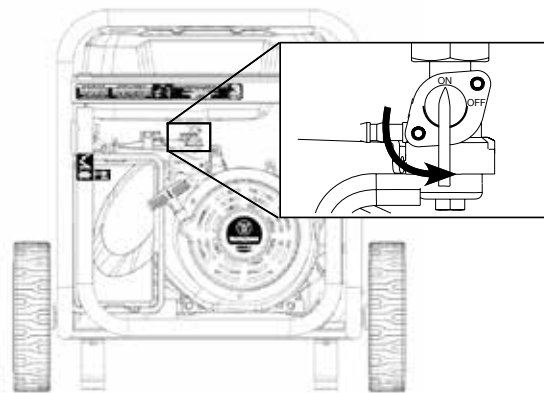

Figure 9 - Fuel - ON
- ① 240/120V Main Circuit Breaker Operating Position
- ② 240/120V Main Circuit Breaker Tripped Position
- ③ 120V Circuit Breaker Operating Position
- ④ 120V Circuit Breaker Tripped Position
4. Move the fuel valve to the **ON** position (see Figure 9).
3. Move the fuel valve to the ON position (see Figure 9).